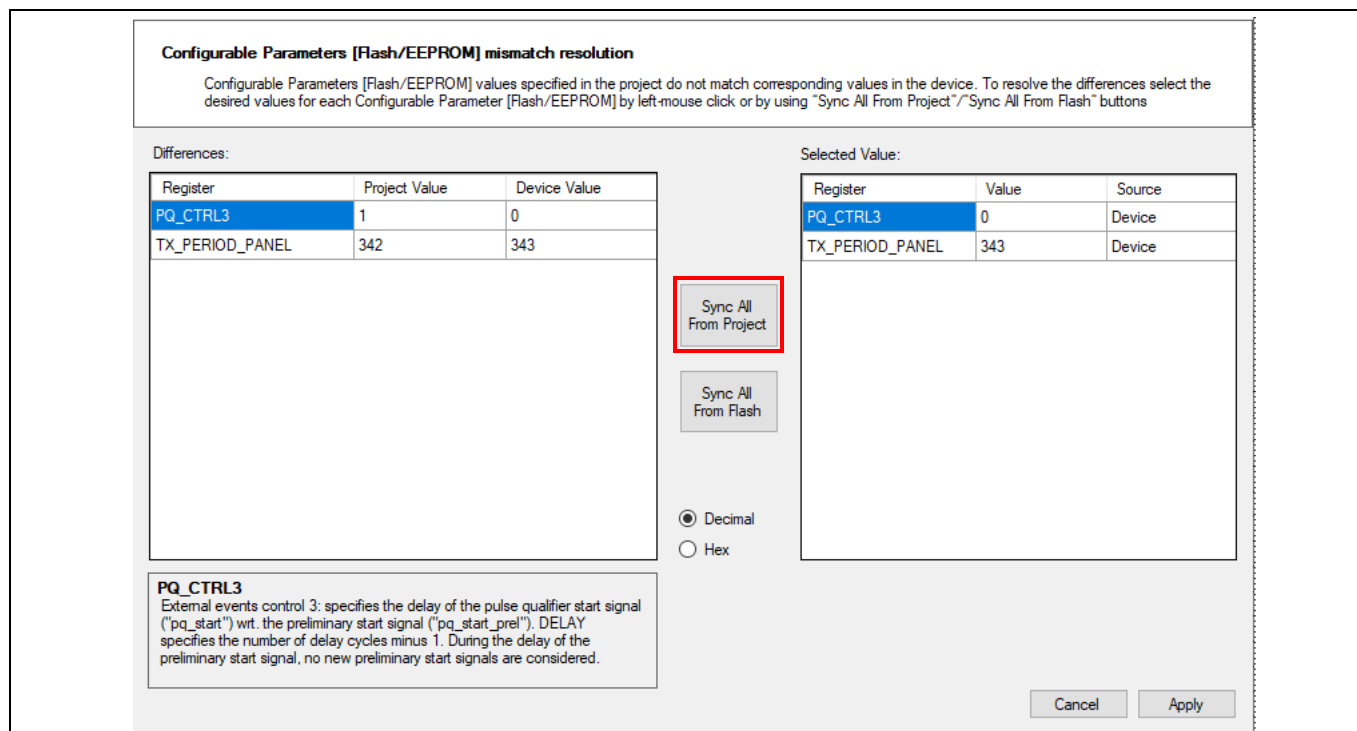

Figure 12 Sync All From Project window
10. New window may open before the progress bar displays the message reading of flash contents are complete. TTHE compares the values in its Configurable parameters window with the corresponding values in flash. If there is a mismatch, it asks if you want to continue with the values stored in the flash or want to update the flash with the values that are stored in its configurable parameters window. The window in Figure 12 does not appear if the values stored in the device's flash are the same as the values in the TTHE configurable registers window. The Sync All From Project procedure will work only if the FW version is same. For a different FW version, user must Bootload to resolve the difference.
11. If the pop-up window shown in Figure 12 appears, click on **Sync All From Project**; then, click **Apply**. This ensures that the firmware on the flash is in accordance with the TTHE's TSG6_XL_GC6_CYAT81688-100AS77_EVK project. When you click **Apply**, TTHE starts writing the contents to the flash and its progress is shown in the pop-up window. Click the **Close** button when complete.